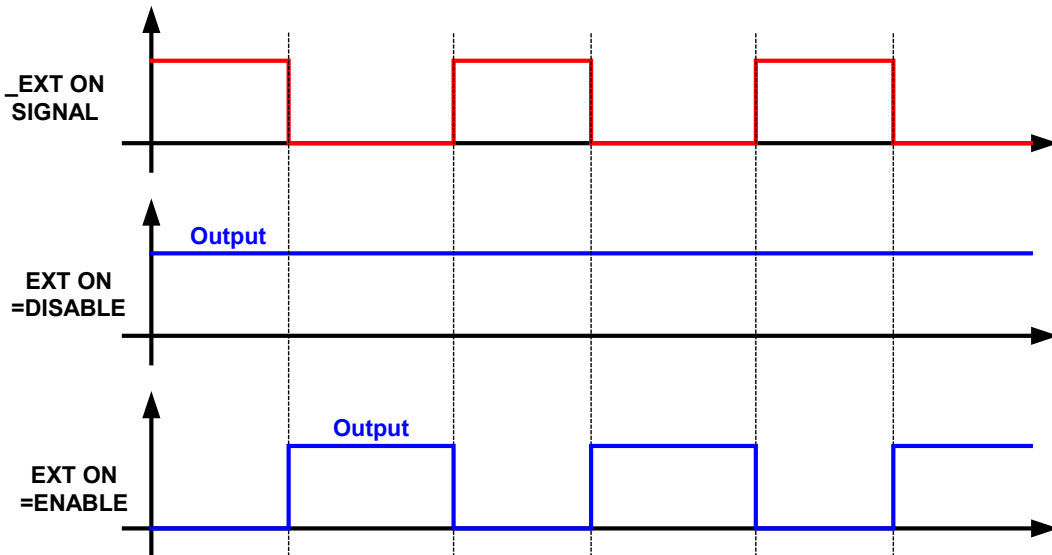

Figure 3-78
- When the DC Power Supply is set to **OUTPUT = ON**, the detail actions of EXTERNAL ON/OFF are as shown in Figure 3-78.